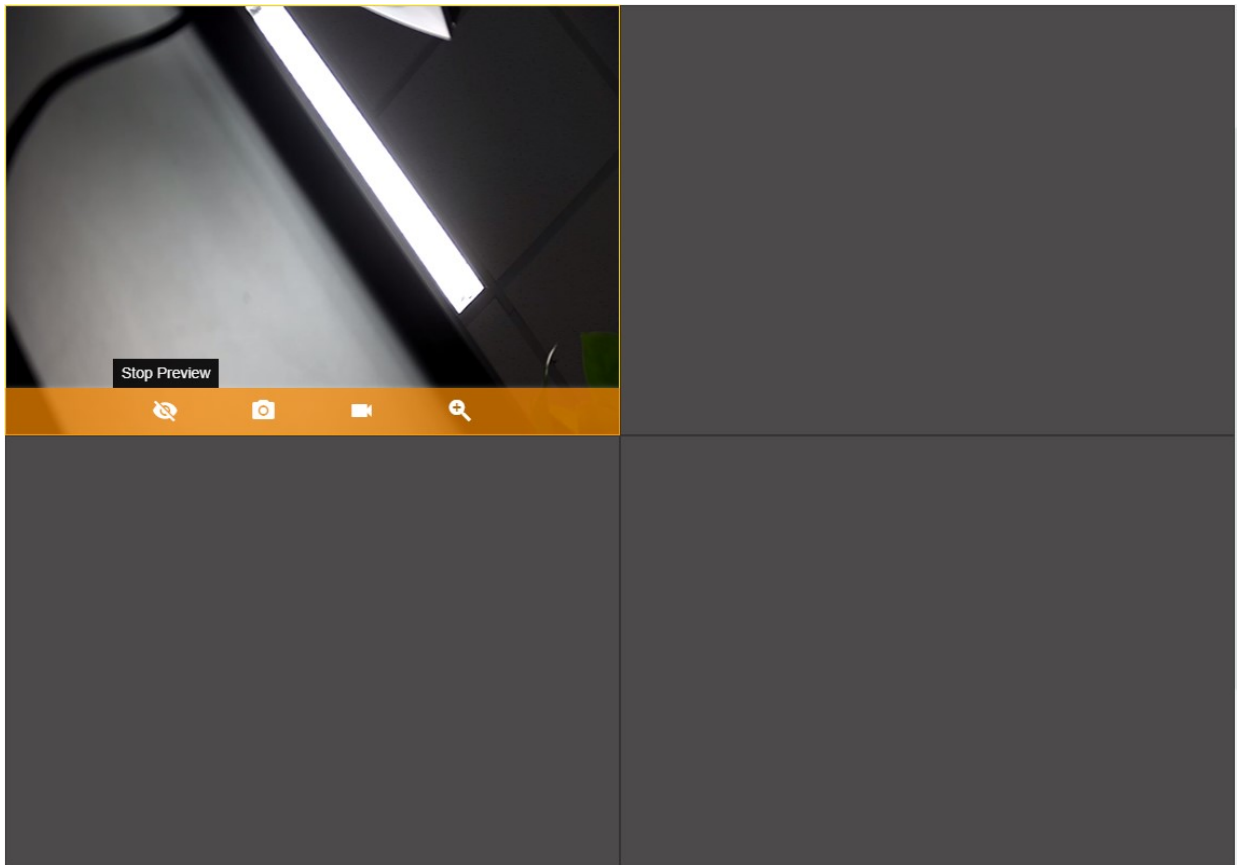

Figure 14-16 Stop preview
2. To stop the preview, select the corresponding small window, hover the cursor over the bottom of the window, and click the **Stop Preview** button, as shown in Figure 14-16.